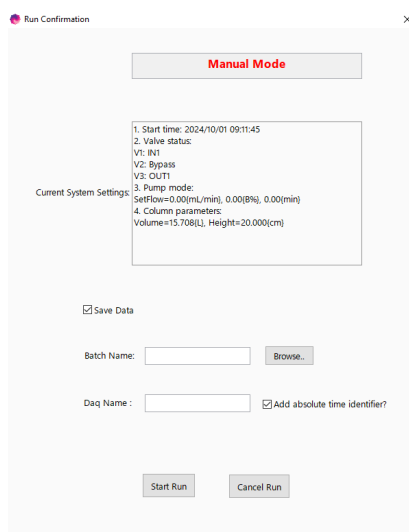

Figure 12: Manual mode run confirmation pop-up.
- In the Run Confirmation box shown in Figure 12, select whether you want to save data by ticking or unticking the save data box. If you wish to save data, ensure you have entered a file name.